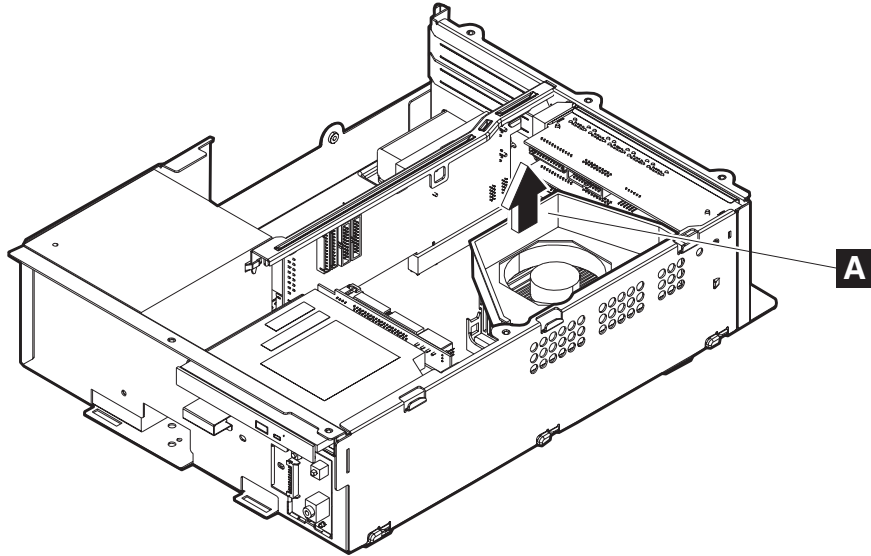

Figure 32. Removing the air duct
3. See Figure 32. Lift the air duct (**A**) from the fan.